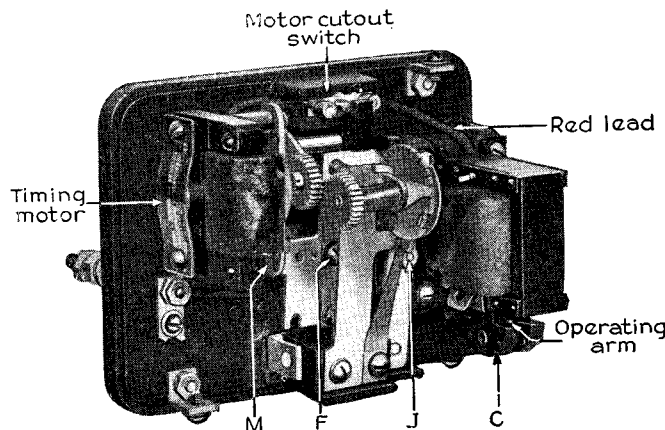

FIG. 1—ANOTHER VIEW OF RELAY SHOWN IN FIG. 2
First, it is necessary to move the four screws (H) and remove the solenoid and plunger from the base. This frees the plunger from the operating arm and the plunger (C), Fig. 1, may then be removed. Then take out cotter pin (D) and spring (E). The coil may then be removed.
The silver contacts should require little attention, but must be replaced before they are completely worn down to their supports. To remove the interlock movable contacts take out screw (J), Fig. 1. Contacts and contact spring may